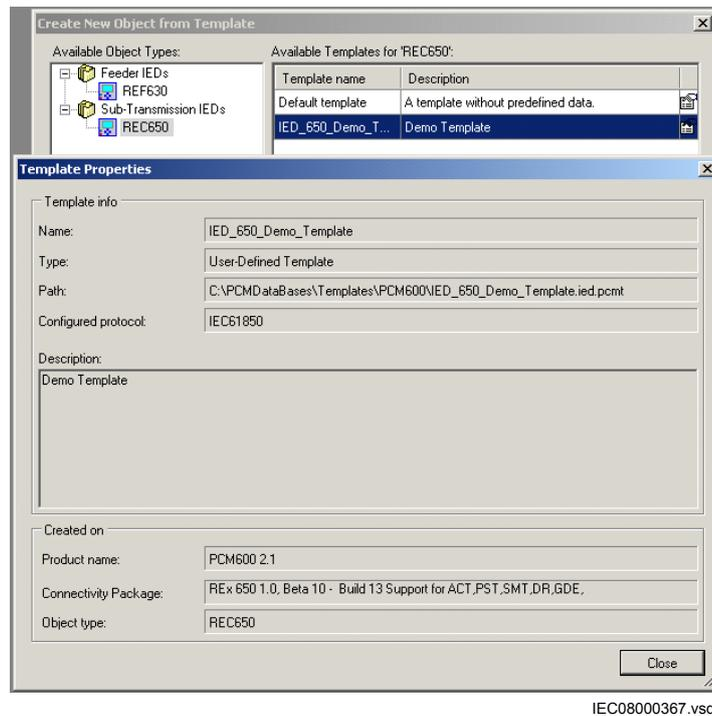

Figure 26: PCM600: IED Template Properties
4. Click the icon in the right column of the list of available templates to open the *Template Properties*. Verify the template information, see Figure 26 and click *Close* to close the window.